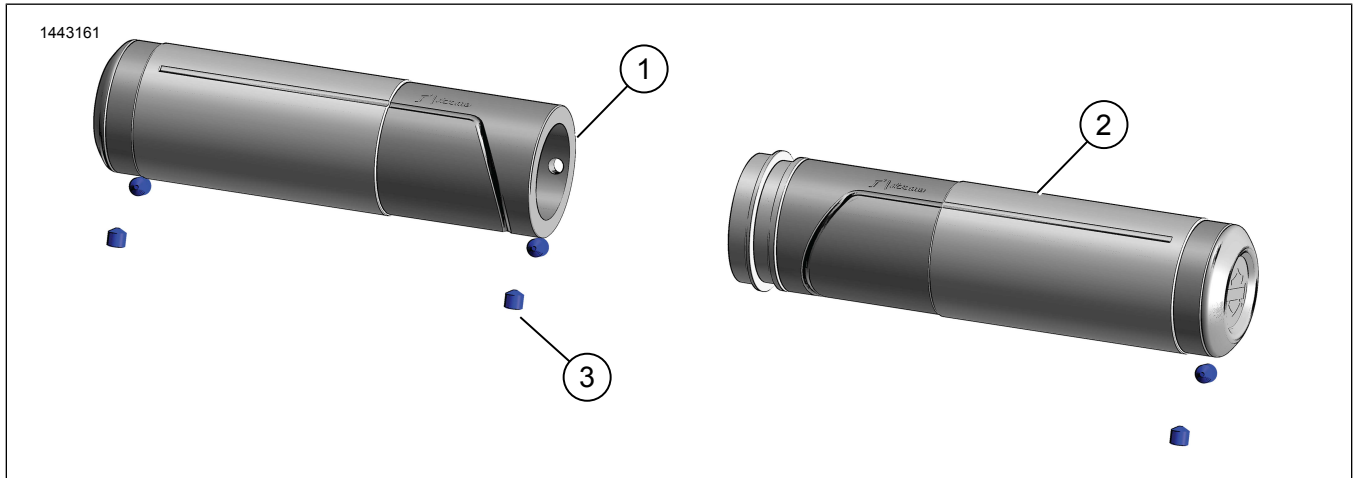

Figure 1. Kit Contents: Handlebar Grips
See Figure 1. for proper orientation of grip.
2. To understand the correct orientation of the left side grip: Position the new left grip so the lines on the grip are toward the rider and front of the vehicle. See Figure 1. The lines on the grip are vertical.